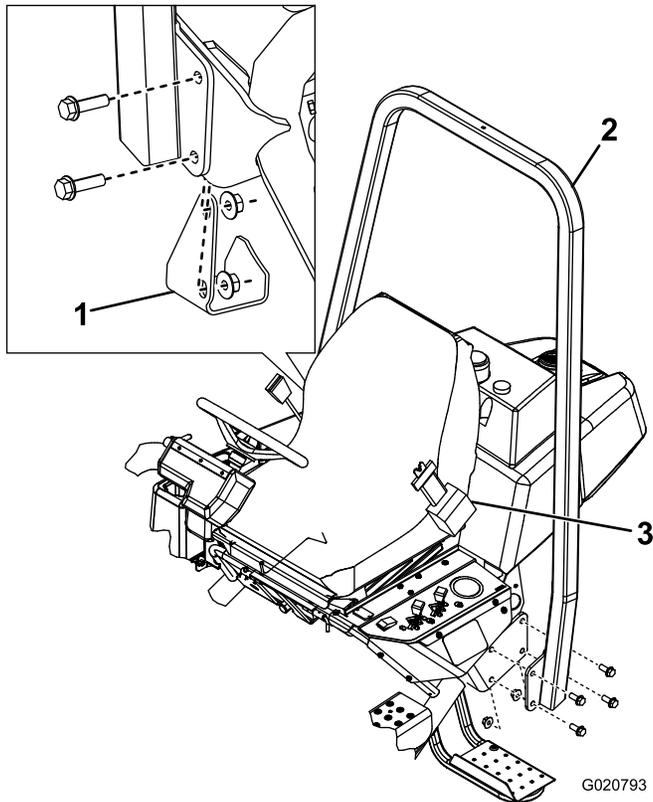

Figure 6
- Lower the ROPS frame (Figure 6) onto the mounting brackets, aligning the mounting holes.